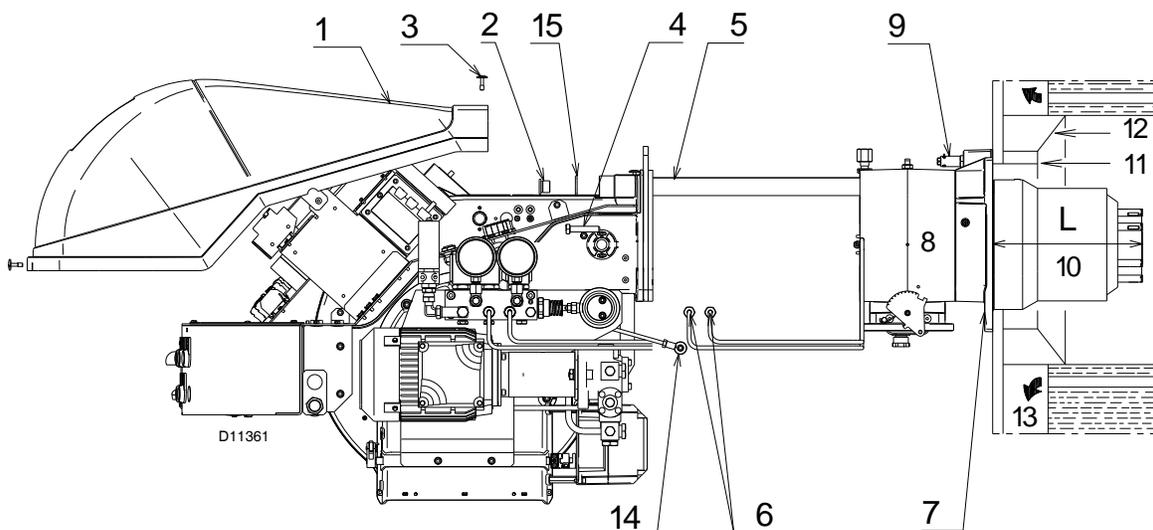
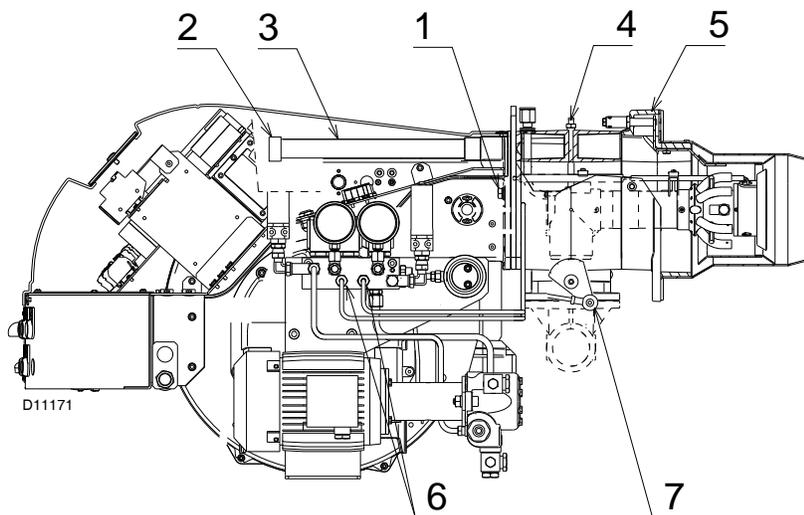

Fig. 11
Fig. 18
This protective insulation must not compromise the extraction of the blast tube. For boilers having a water-cooled front, the insulation 11)-12) (Fig. 11) is not required unless it is required by the boiler manufacturer.
Detach the combustion head from the burner, (Fig. 11):
- Refit the burner to the slide bars 3)(Fig. 18) at approximately 4" from the sleeve 4) - burner positioned as shown in (Fig. 11, page 19) - insert the ignition electrode cables.
- Slide the burner up to the sleeve so that it is positioned as shown in Fig. 18;
- refit screws 2)(Fig. 18) on slide bars 3) including the safety plate 15)(Fig. 11, page 19);
- connect the oil pipes again by screwing on the two connectors 6)(Fig. 11, page 19).